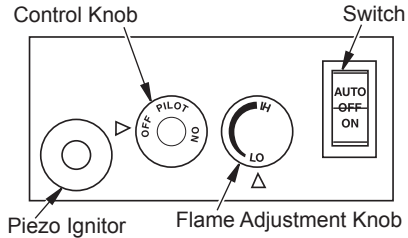

Figure 18 - Control Knob and Ignitor Button Location, Manual Controlled
4. Press in and turn control knob clockwise to the OFF position (see Figure 18, page 17).
5. Wait five (5) minutes to clear out any gas. Then smell for gas, including near the floor. If you smell gas, STOP! Follow "B" in the safety information, page 16. If you don't smell gas, go to the next step.
6. Press in and turn control knob counterclockwise  to the PILOT position. Press in control knob for five (5) seconds (see Figure 18).